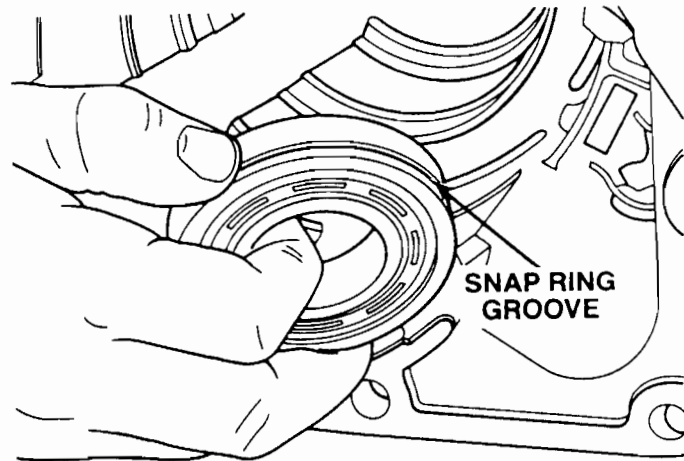

FIGURE 41
9. Set the output shaft rear bearing in the case, ensuring that the groove is toward the front of the case (Figure 41).